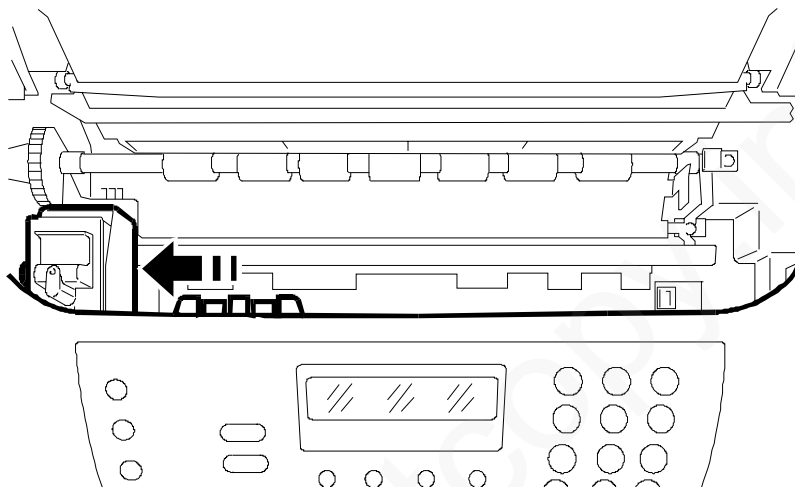

Fig. 7-3
- 2) Remove the print head and move the carriage against the left side (figure 7-3).